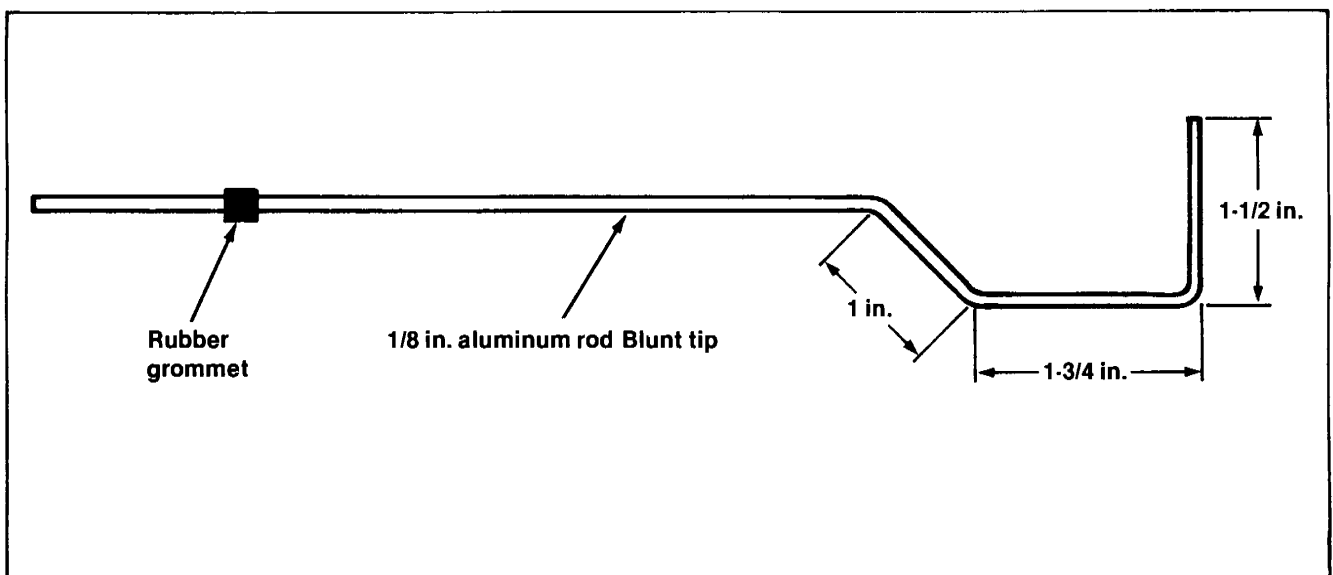

Figure 2-33. Alignment Tool
3. See Figure 2-33. To assure accurate measurements, obtain a piece of 1/8 in. aluminum welding rod 25 in. long. Grind one end down to a blunt point. With a pliers, bend the rod as shown to clear the frame and extend back past the rear axle. Place a snug fitting grommet on the rod to act as a slide measurement indicator.